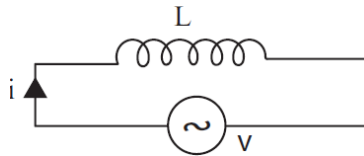

Figure 2.13
In this circuit, an alternating voltage is applied across a pure inductor (L) is shown in Fig. 2.13.